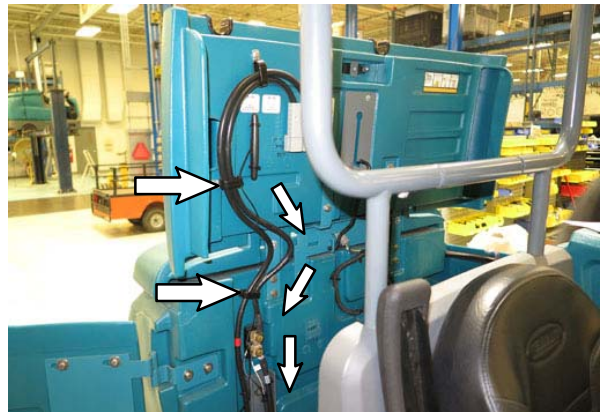

FIG. 20
22. Route the antenna (16) cable through the cable clamps, along the main battery cable (13) / telemetry harness (12), and to the telemetry control box (1). (Fig. 20)